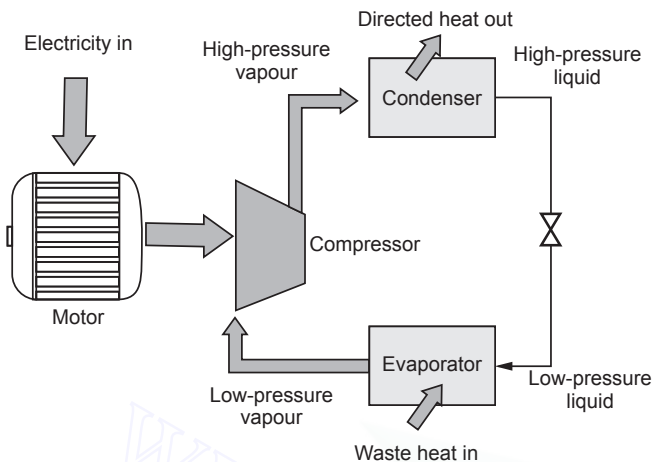

Fig. 4.12. Heat pump
- The heat pump was developed as a space heating system where low temperature energy from the ambient air, water, or earth is raised to heating system temperatures by doing compression work with an electric motor-driven compressor. The arrangement of a heat pump is shown in Fig. 4.12.